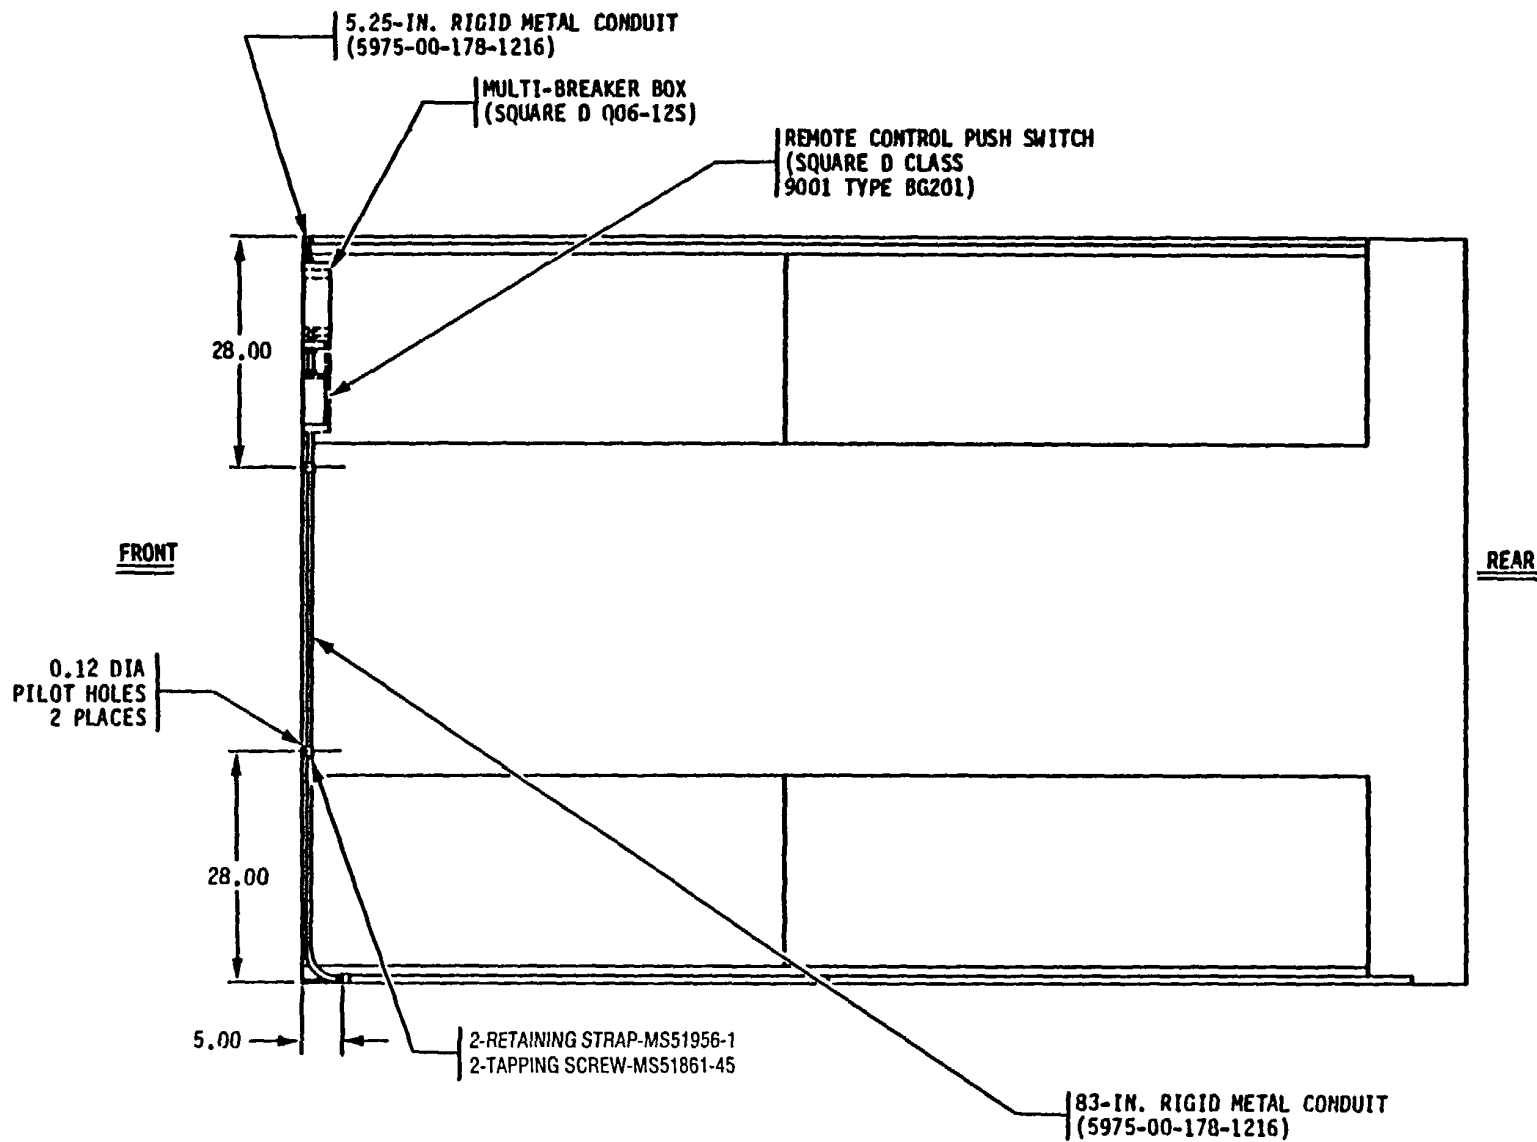
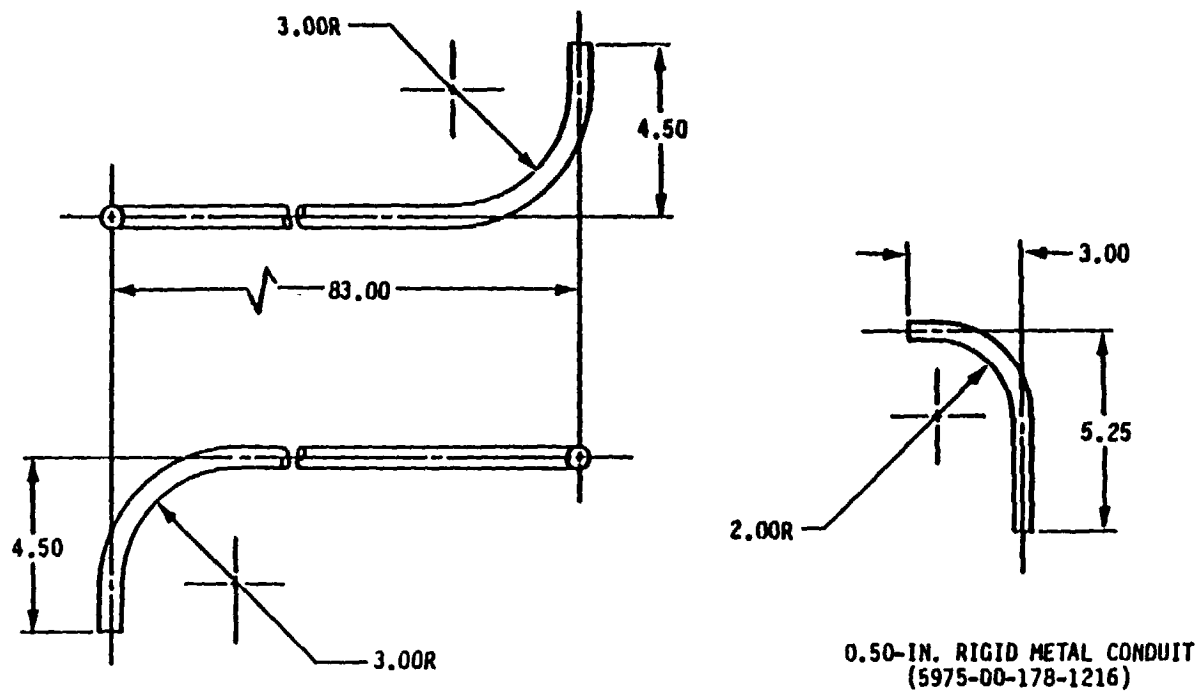

Figure 7. Rigid Metal Conduit Installation, M109A3.
Figure 12. Rigid Metal Conduit Dimensions.
(22) Remove knockout in the bottom of right end of multi-breaker box (Square D Q06-12S) and assemble 5.25-in. rigid metal conduit (Fig. 12) using 0.50-in. box connector (5975-00-926-0589) (Fig. 7 and 11).
(24) Remove knockout in bottom side of multi-breaker box and assemble 83-in. rigid metal conduit (fig. 7, 11, and 12) to circuit breaker using 0.50-in. box connector (5975-00-926-0589).
(25) Remove knockout from end of left side of wiremold entrance end fitting (5975-00-673-7658) and assemble free end of 83-in. rigid metal conduit using 0.50-in. box connector (5975-00-926-0589) (Fig. 7 and 11).
(26) Locate and drill two 0.12-in. diameter pilot holes in front wall using two retaining straps (MS51956-1) as templates in accordance with figures 7 and 11. Secure retaining straps to conduit and wall of van using two #10 x 1/2-in. thread forming screws (MS51961-45).